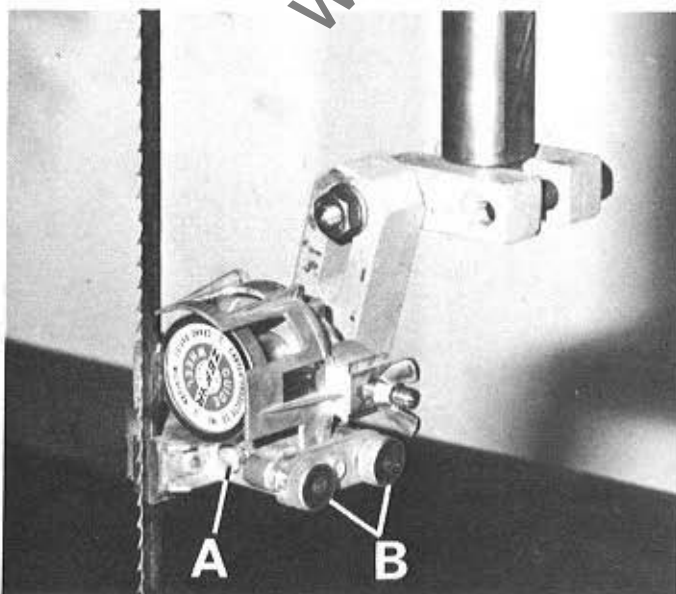

FIG 15
5. Loosen locking screw "A", FIG.15, and set guide blocks just clear of sawblade by adjusting screws "B". When set, tighten screw "A".